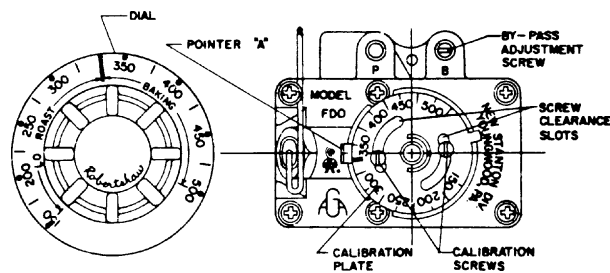

Fig. 5
6. With a screwdriver, loosen the two calibration screws (Fig. 5) until calibration plate moves independently of the control.
7. Turn calibration plate until mark corresponding to test instrument or thermometer reading is in line with center of pointer "A" (Fig. 5), and while holding in this position, tighten calibration screws firmly.